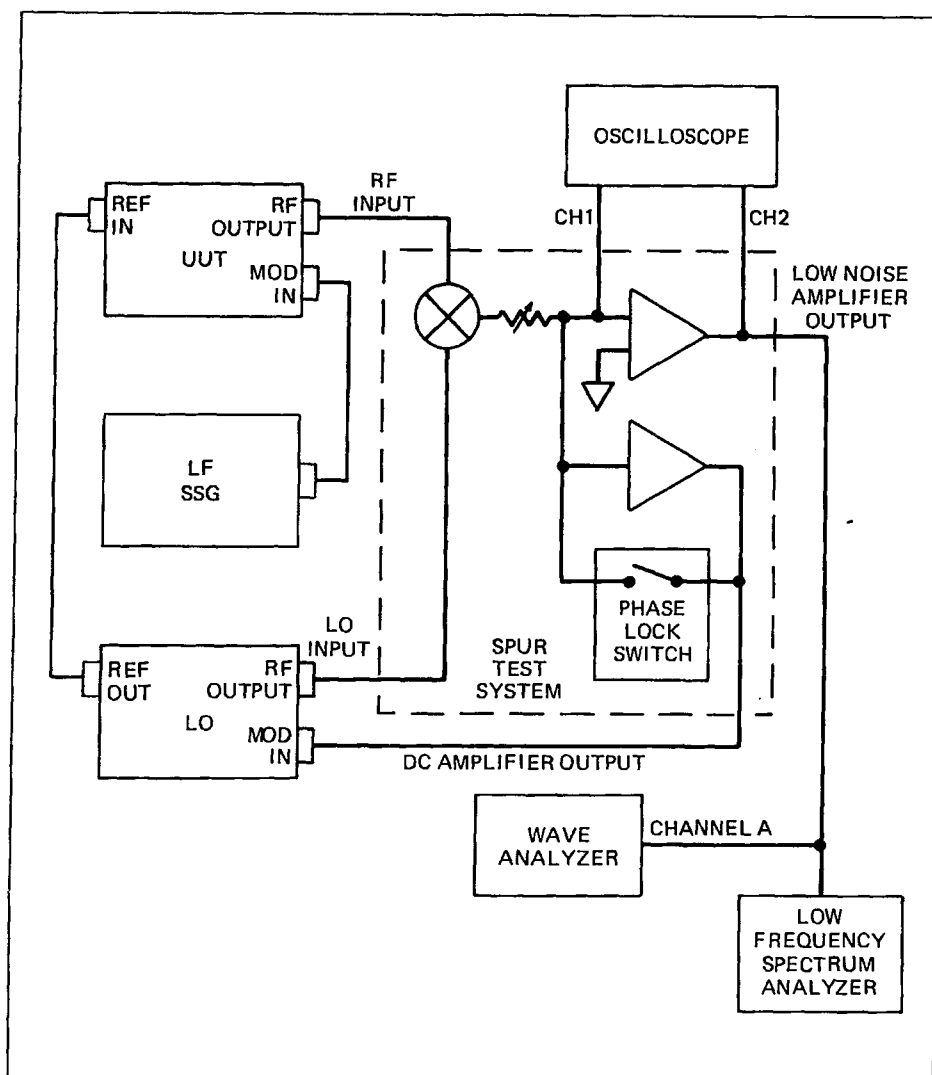

Figure 5-5. Phase Noise Check
1. Connect the test equipment as shown in Figure 5-5. Construction of the spur test system is described in the Spurious Output Checks material presented earlier in this section.